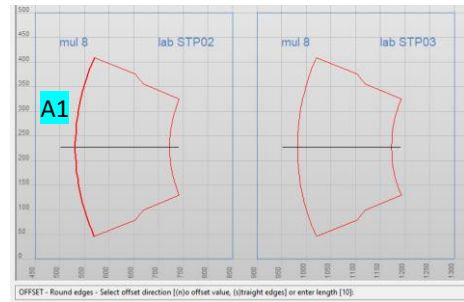

Figure 78
b. **Select offset geometry:** Start with our first offset according to Table 4. Therefore select **A1** (Figure 78).